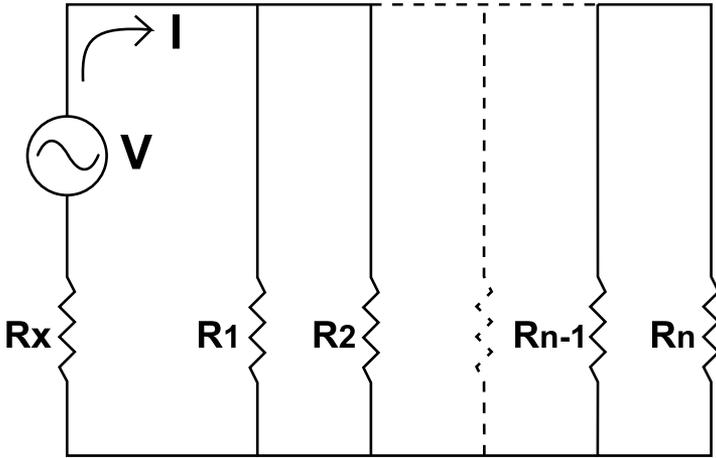
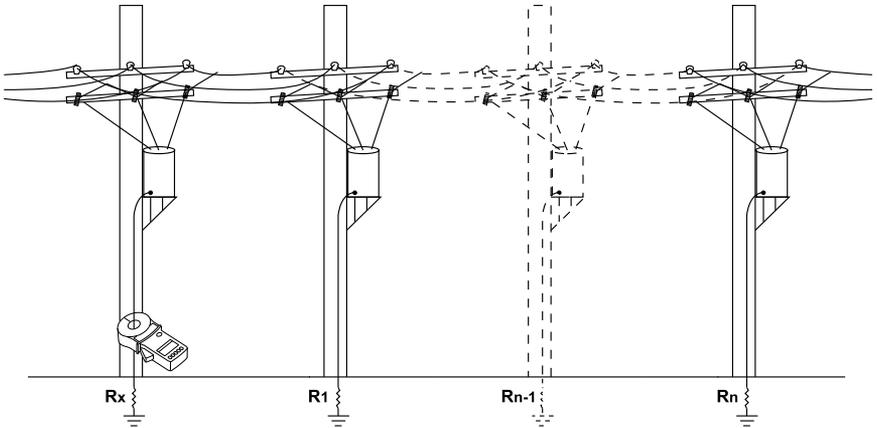

Figure 20
Figure 21
Typically grounded distribution system may be simulated by the basic circuit shown in Fig. 20 or an equivalent circuit, shown in Fig. 21. If voltage (V) is applied to any measured grounding electrode R_x through a special transformer, current (I) flows through the circuit, thereby establishing the following equation: